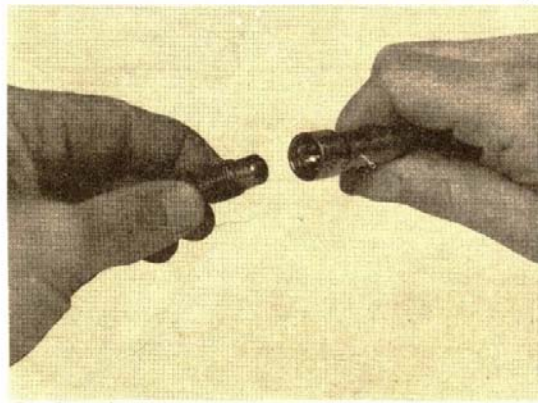

Fig. 3-4. Check the rocker lever adjusting screw ball end
5. Use a 1/4 inch (6.35 mm) radius gauge to measure the ball end of the rocker lever adjusting screws. Fig. 3-4. The ball end and socket of the push rod should "blue in" 80 percent of the seat area.